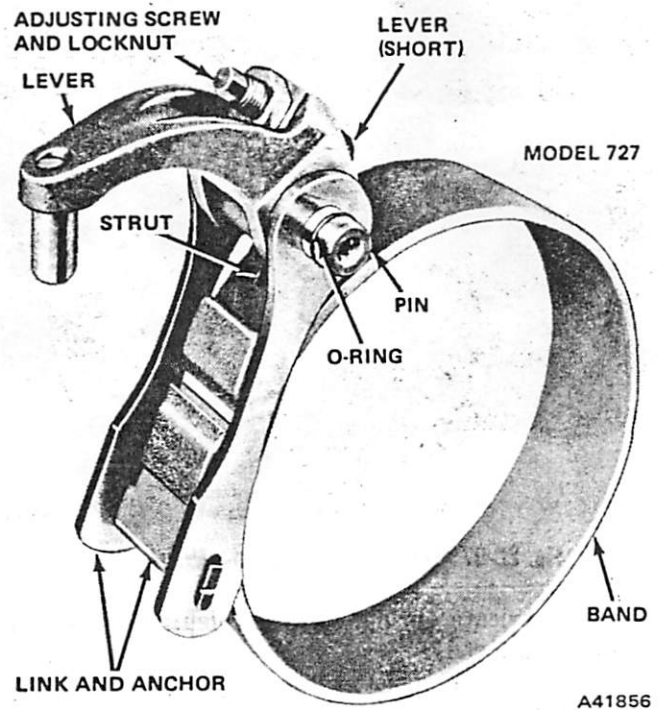

Fig. 2C-95 Rear Band—Model 727
**NOTE:** The model 999 transmission has a double wrap band supported at two points by a reaction pin mounted in the case. It is actuated at one point by the rear servo adjusting screw (fig. 2C-96).
- (1) Install replacement O-ring on reaction pin and insert pin into case until pin is flush with gasket surface.